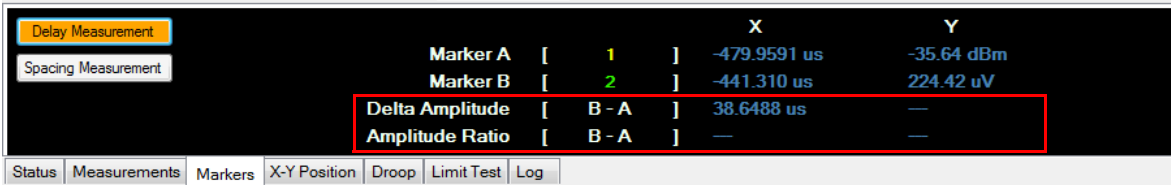

Figure 2-115 Delay measurement in the Marker view
- The delay measurement results will be displayed on the Delta row in the Marker view and the **Delay Measurement** button is highlighted when it is turned on as shown in Figure 2-115.